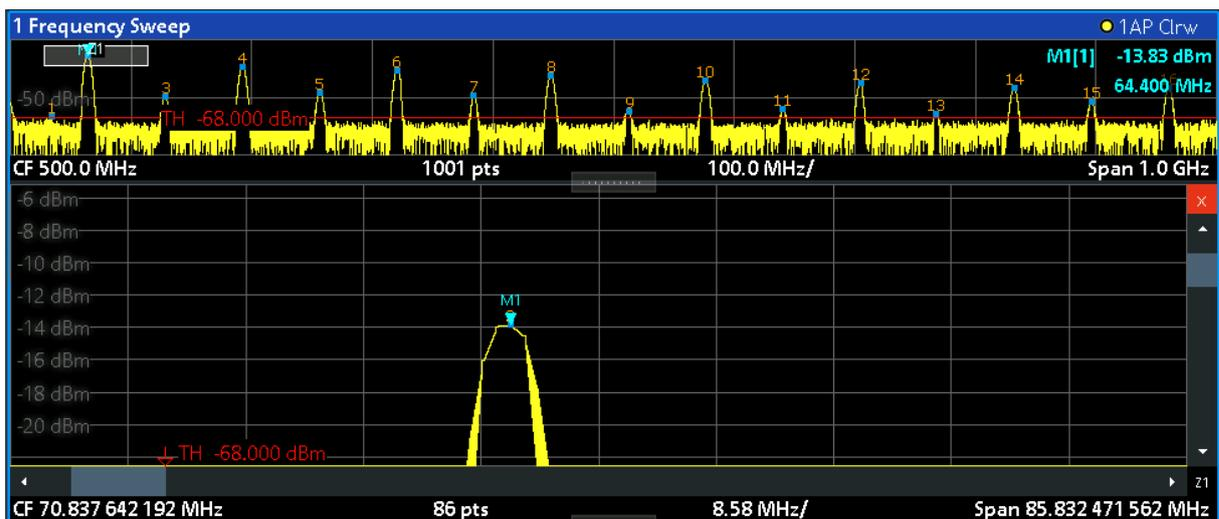

Figure 7-13: Zoomed display around a peak
3. In Figure 7-13, the enlarged peak is represented by a very thick trace. This is due to the insufficient number of sweep points. The missing sweep points for the zoomed display are interpolated, which provides poor results. To optimize the results, we will increase the number of sweep points from the default 1001 to 32001.